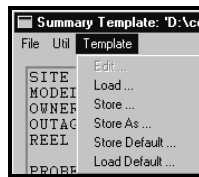

Figure 3-90. Template Dialog - Template Menu
As shown in Figure 3-90, the **Template** menu on the **Template** dialog contains five (5) *active* menu choices. They are: **Load ...**, **Store ...**, **Store As ...**, **Store Default ...**, and **Load Default ...**, which are discussed below. The other choice, **Edit ...**, is grayed-out indicating that it is *inactive*.
- ❑ **Template > Load ...:** Selecting **Load ...** from the **Template** menu on the **Template** dialog shown in Figure 3-90 displays an **Open** dialog which defaults to the `\corestar\config\summary` subdirectory. Select the desired summary template file (*.sum*) to be used and click **OK** on the **Open** dialog.
- ❑ **Template > Store ...:** Selecting **Store ...** from the **Template** menu on the **Template** dialog shown in Figure 3-90 saves the current summary template file to the `\corestar\config\summary` subdirectory using the same filename.
- ❑ **Template > Store As ...:** Selecting **Store As ...** from the **Template** menu on the **Template** dialog shown in Figure 3-90 displays a **Save As** dialog which defaults to the `\corestar\config\summary` subdirectory. Type a new filename for the current summary template file, including the *.sum* extension, and click **OK** on the **Save As** dialog to save the new summary template file with the new filename.
- ❑ **Template > Store Default ...:** Selecting **Store Default ...** from the **Template** menu on the **Template** dialog shown in Figure 3-90 saves the current summary template to the `\corestar\config\summary` subdirectory as the default template file to be used until **Store Default ...** is executed again. Clicking **OK** performs the same function as well.
- ❑ **Template > Load Default ...:** Selecting **Load Default ...** from the **Template** menu on the **Template** dialog shown in Figure 3-90 opens the current default summary template file from the `\corestar\config\summary` subdirectory.